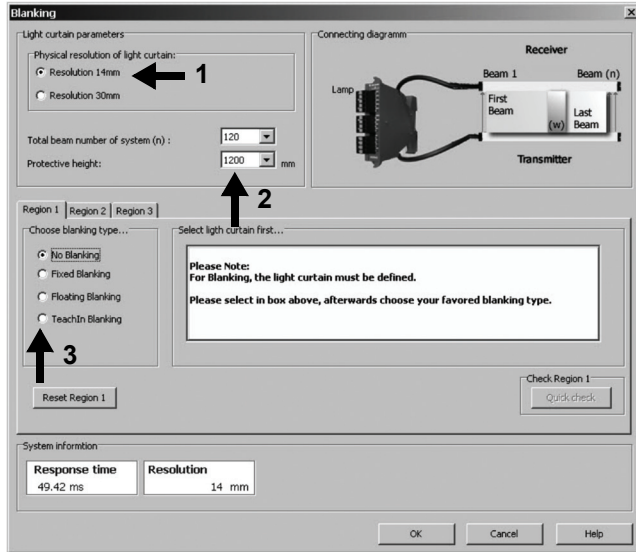

Figure 73: Blanking window
The first step is to define the resolution (1 *Figure 73*) and the number of beams or the protective field length of the Micro 400 light curtain (2). The length of the protective field as well as the physical resolution can be found on the specification label of the light curtain being configured.
Teach-In blanking is available in the Basic Configuration mode (See chapter 5.4.1.2 on page 20), and does not need to be configured. However if desired this mode can also be configured (3 – Figure 73).